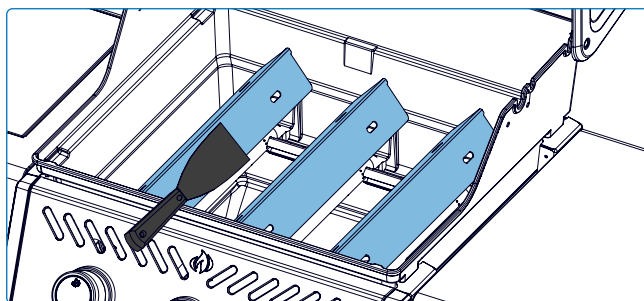

Fig. 22
3. Scrape the sear plates with a putty knife or scraper. Use a wire brush to remove any ash (**Fig 22**).